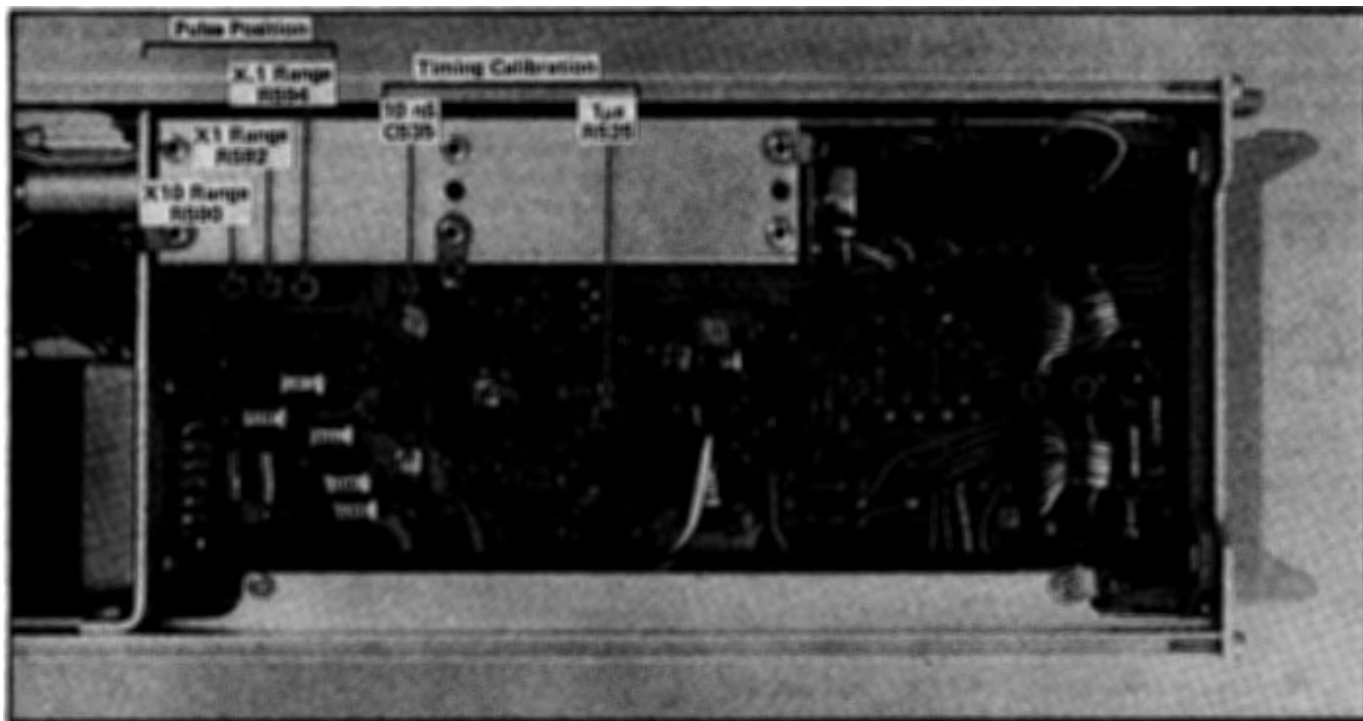
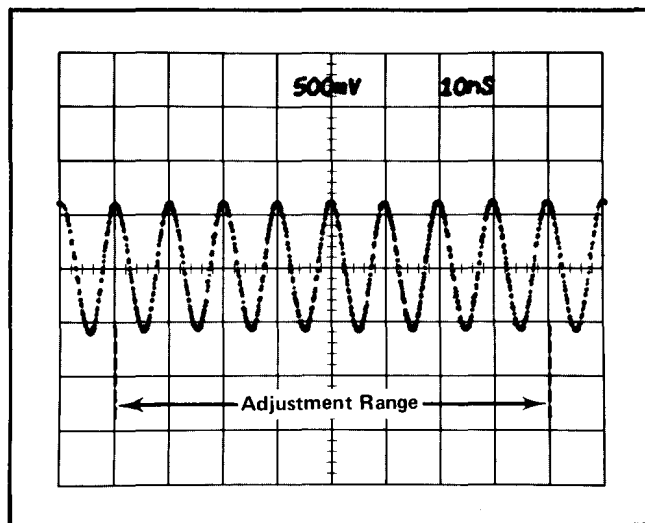
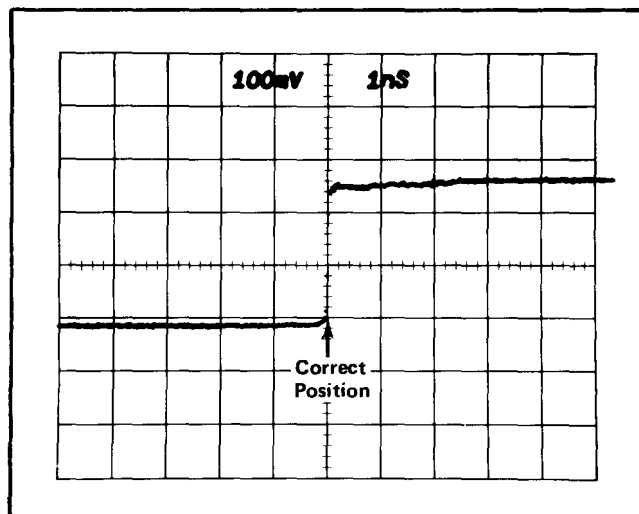

Fig. 5-15. Control locations on the Right Interface card.
Fig. 5-16. Correct 10 ns/div adjustment waveform.
Fig. 5-17. Correct pulse start position adjustment waveform.
Note: If the step is off screen, adjust Pulse Position control R592 to display the step. See Fig. 5-15 for the control location.
e. Adjust Timing control R525 for one marker per division. Use the FINE control to place the markers at the graticule lines and use graticule lines one through nine for this adjustment. See Fig. 5-15 for the control location and Fig. 5-3 for this waveform.
h. ADJUST Timing control C535 for one cycle to sine wave per division from graticule line 1 to graticule line 9. See Fig. 5-15 for the control location and Fig. 5-16 for this waveform.
d. ADJUST the Pulse Position control R594 to place the pulse at graticule line 5. See Fig. 5-15 for the three controls location and Fig. 5-17 for this waveform.